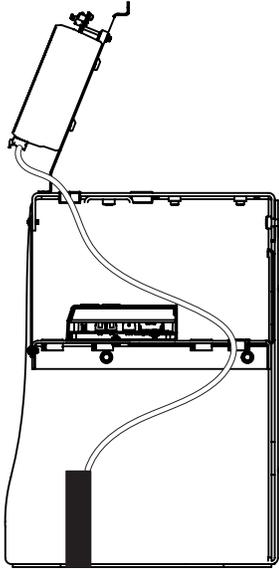

Figure 38. Route Relay Wires
2. Route the relay wires to the SmartCNX Controller (Figure 38).